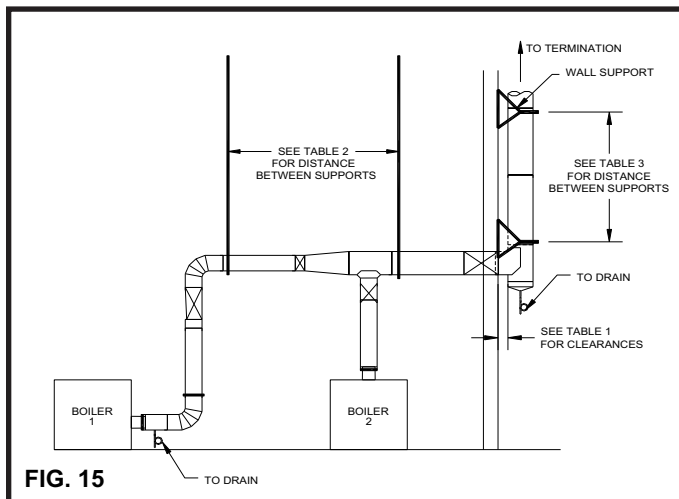

FIG. 15
1. There may be installations where Corr/Guard II vent shall run vertically - exterior to the building and a wall band support is needed. A wall support (WS) is used to secure the vent system to a wall while maintaining the minimum clearance to combustible construction (See FIG. 15).